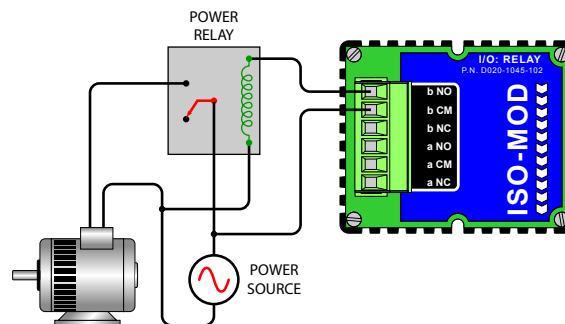

Figure 25: External relay connections
*Figure 25* shows the connection of an external power relay to the Relay ISO-MOD. Use external power relays whenever the load to be switched exceeds the switch rating of the reed relays, or if the load is inductive in nature.